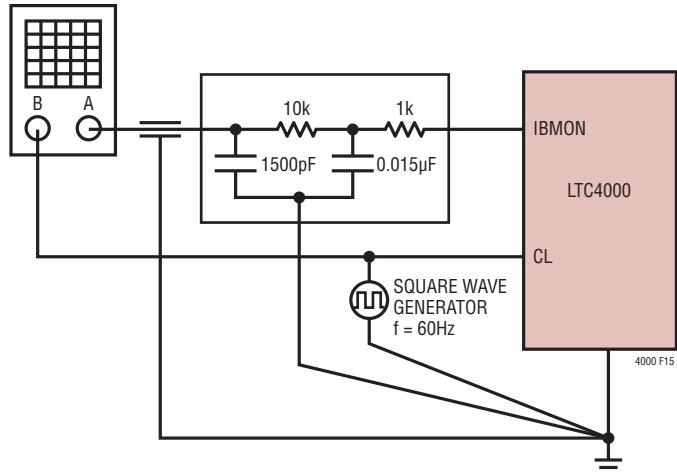

Figure 15. Charge Current Regulation Loop Compensation Setup
- For compensation, the procedure described in the empirical loop compensation section is followed. As recommended, first a $1\mu\text{F}$ C_C and 10k R_C is used, which sets all the loops to be stable. For an example of typical transient responses, the charge current regulation loop when V_{OFB} is regulated to $V_{OUT(INST_ON)}$ is used here. Figure 15 shows the recommended setup to inject a DC-coupled charge current variation into this particular loop. The input to the CL pin is a square wave at 70Hz with the low level set at 120mV and the high level set at 130mV, corresponding to a 1.2A and 1.3A charge current (100mA charge current step). Therefore, in this particular example the trickle charge current regulation stability is examined. Note that the nominal trickle charge current in this example is programmed at 1.25A ($R_{CL} = 24.9k\Omega$).